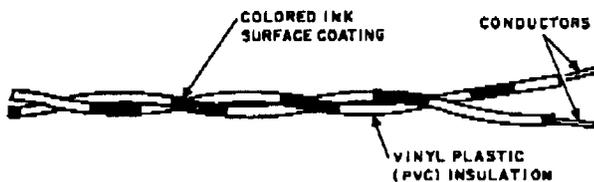

Fig. 3—F Cross Connecting Wire (One-Pair Size)
2.03 F cross-connecting wire (Fig. 3) has a single layer of vinyl plastic insulation and is intended for either indoor or outdoor cross-connecting terminals. It is available in 1-pair, 2-pair, 3-pair, and triple size. The 3-pair size allows the wiring of six button key sets and other installations requiring six conductors.